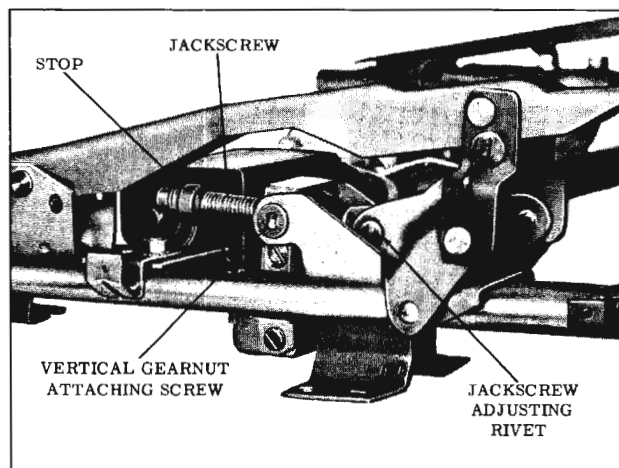

Fig. 16-318 Outboard Bucket Seat Adjuster
3. Using a clutch type screwdriver, remove shoulder screws securing linkage to vertical gear nut. (Fig. 16-318)
4. Remove jackscrew "down" stop from jackscrew. (Fig. 16-318)
3. As a bench operation, remove jackscrew-to-adjuster linkage attaching rivet and remove jackscrew from adjuster assembly (Fig. 16-318)